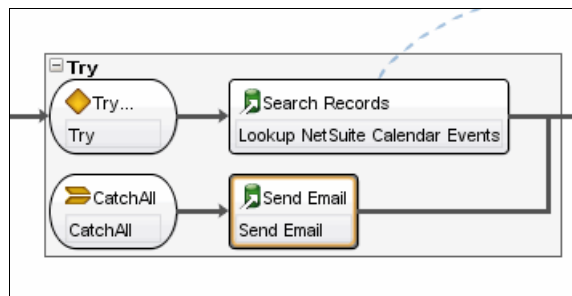

Figure 11-38 Send Email activity
5. From the Email section on the Activities, drag a Send Email activity to the CatchAll branch of the Try activity, as shown in Figure 11-38.